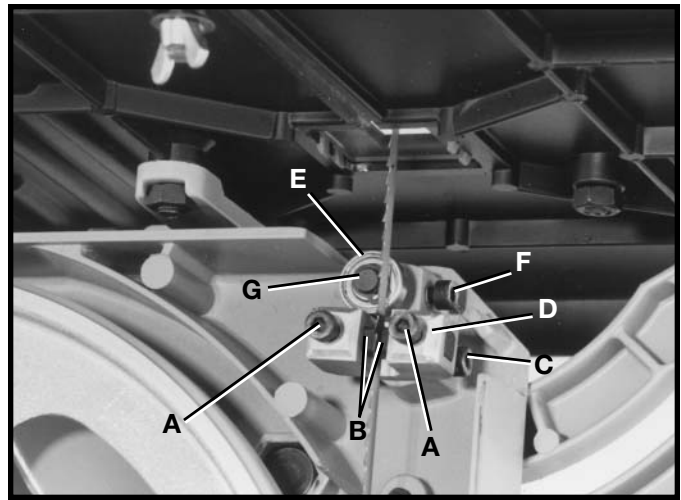

Fig. 24
1. Loosen two screws (A) Fig. 24, and move guides (B) as close as possible to the sides of the blade, being careful not to pinch the blade. Then tighten the two screws (A).
2. The front edge of guide blocks (B) Fig. 24, should be adjusted so they are just behind the “gullets” of the blade teeth by loosening screw (C), and moving assembly (D) in or out as necessary. Then tighten screw (C).
3. The lower blade support bearing (E) Fig. 24, should be adjusted to support the rear of the blade during the cutting operation and also prevent the blade from being pushed too far to the rear which could damage the blade. The support bearing (E) Fig. 24, should be set about 1/32" behind the blade by loosening screw (F) Fig. 24, and moving shaft (G) in or out. Then tighten screw (F).
4. The lower blade support bearing (E) Fig. 24, should also be adjusted so the back of the blade overlaps the outside diameter of the ball bearing by approximately 1/8". The blade support bearing (E) is set on an eccentric shaft. To change position of bearing (E), loosen screw (F) Fig. 24, and rotate shaft (G) Figs. 24 and 25, until the blade properly overlaps the support bearing. Then tighten screw (F) Fig.24.